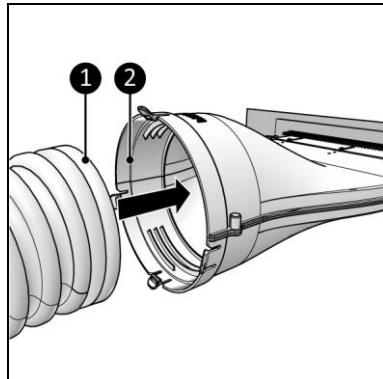

Figure 7
- With a click system, for a hose with a collar (Figure 7, pos. 1).
1. Insert the air conditioning hose (Figure 7, pos. 1) into in the main body (Figure 7, pos. 2).